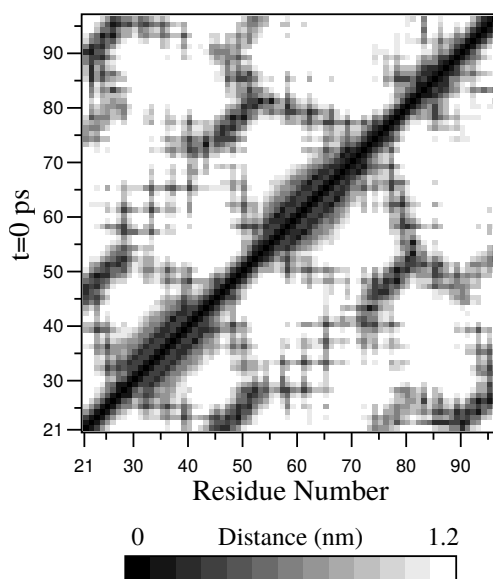

Fig. 5.58: A minimum distance matrix for a peptide *168* (page 546).
- To monitor the *minimum distances between amino acid residues* within a (protein) molecule, you can use the program *gmx mdmat* (page 186). This minimum distance between two residues  $A_i$  and  $A_j$  is defined as the smallest distance between any pair of atoms ( $i \in A_i, j \in A_j$ ). The output is a symmetrical matrix of smallest distances between all residues. To visualize this matrix, you can use a program such as *xv*. If you want to view the axes and legend or if you want to print the matrix, you can convert it with *xpm2ps* (page 258) into a Postscript Fig. 5.58.